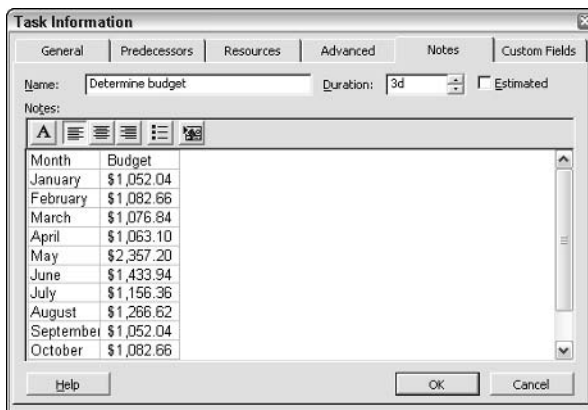

Figure 8-35: The information in the file appears as a graphic object on the Notes tab of the Task Information dialog box.
6. Click the OK button. The worksheet information appears as a graphic on the Notes tab, as shown in Figure 8-35.